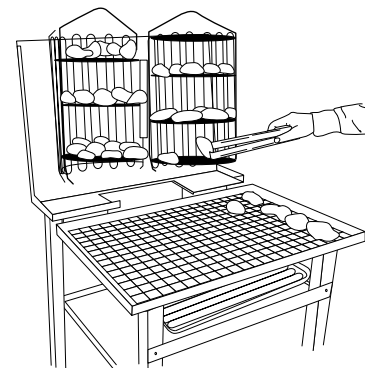

FIGURE 11
8. **Unload Basket** (Figure 11). Place cooked products on corrugated tray and turn cavity (bone) down where applicable. Place tray in holding cabinet.